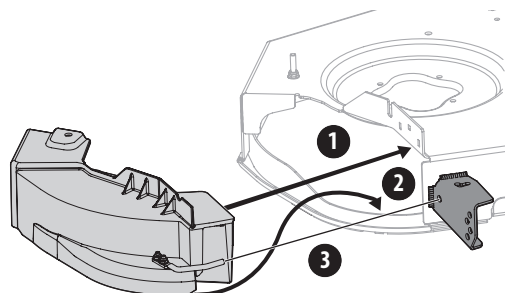

Figure 10
2. Slide horizontal flange on top interior portion of mulch assembly under top of deck. See 1 in Figure 10.
3. Slide front portion of bottom of mulch assembly into bottom of discharge opening on deck. See 2 in Figure 10.
4. Slide slightly towards the front of the tractor and insert rod into hole closest to deck on front right guide wheel. See 3 in Figure 10.